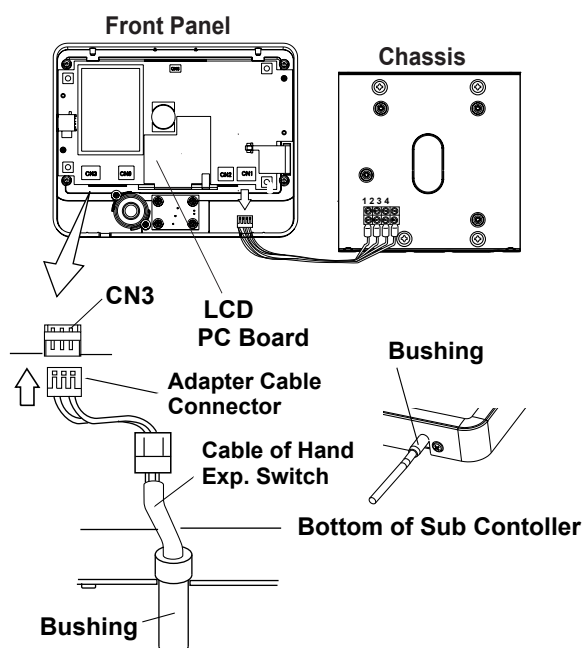

Fig.3-24 Connecting Hand Exposure Switch
4. Connect the connector at the end of adapter cable (red wires) to CN3 connector on the LCD PC board. (**Fig.3-24**)
5. Insert the bushing of coil cord into the slot at the bottom of the chassis, reattach the front cover and secure two (M3 x 8mm) screws again. (**Fig.3-24**)